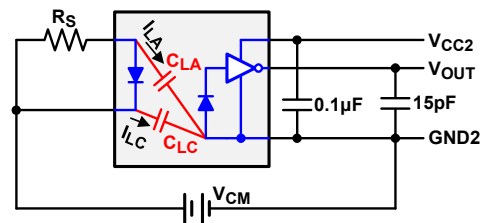

Figure 4. AC Equivalent Circuit
- Figure 4. AC Equivalent Circuit 3
Due to the optocoupler’s internal construction, leakage capacitances (C_{LA} and C_{LC}) exist that allow common-mode transients to capacitively couple from the LED anode and cathode to the output-side ground (Figure 4). This coupling can cause forward current to be shunted away from the LED, which could momentarily turn off the LED during an ON condition, or conversely cause current to be injected into the LED, which could momentarily turn on the LED during an OFF condition. In both cases output glitches can occur that lead to data errors.